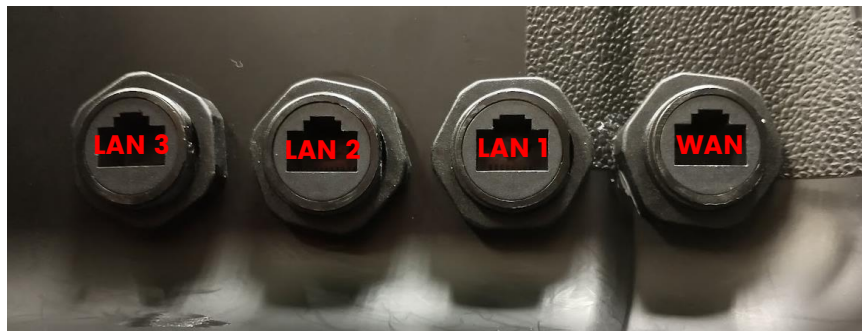

Figure 15: Connect the router to the RJ-45 ports on the case using ethernet cords.
- B. Connect the other ends of the ethernet cords from the router to the RJ-45 ports on the case. Keep track of which cord is connected to the WAN port on the router. Consider connecting the WAN port on the router to the front RJ-45 port and the LAN ports on the router to the back three RJ-45 ports, as shown in Figure 15.